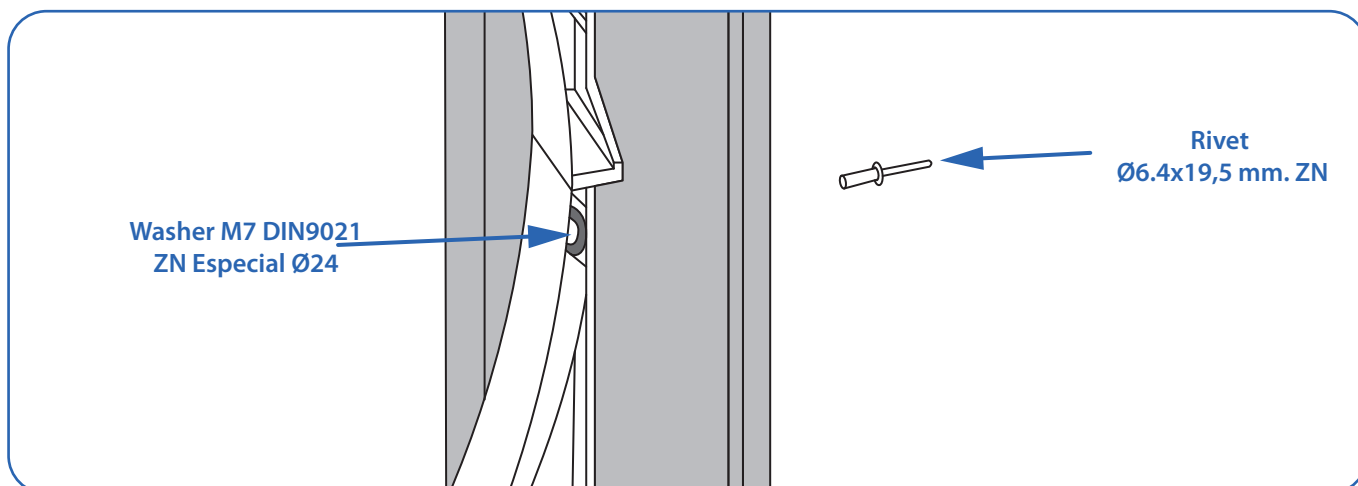
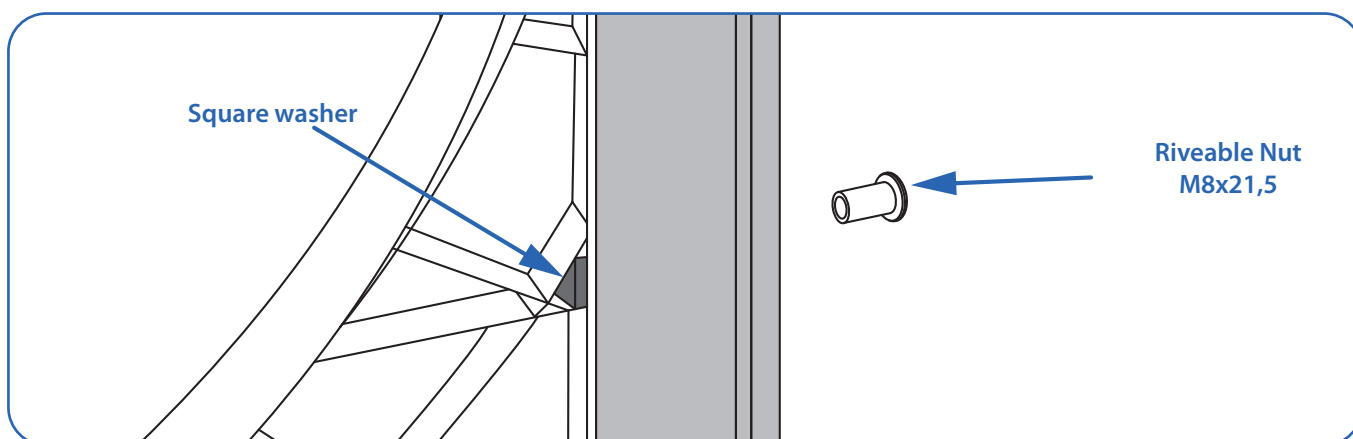

Fig. 21. Fixing the ferrule to the structure by means of a rivet Ø6.4x19,5 mm ZN.
Fig. 22. Fixing the ferrule to the structure by means of a rivetable nut M8x21,5.
- Fix the ferrule to the structure with the rivets  $\text{Ø}6.4 \times 19,5$  mm. ZN [10], where we have previously put the washers M7 DIN9021 [08] on the ferrule (Fig. 21). And then afterwards, put the rivetable nuts M8x21,5 [13] where we have previously put the square washers [09] (Fig.22).